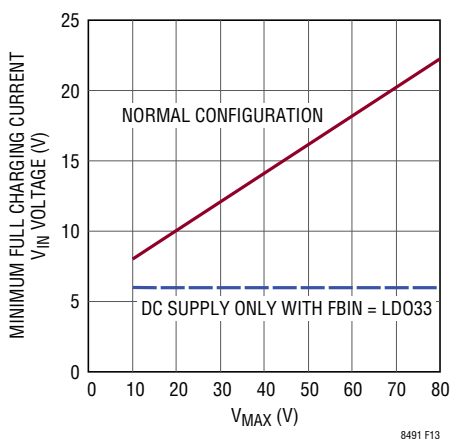

Figure 13. Minimum Full Charging Current V_{IN} Voltage
3. **LOW INPUT VOLTAGE EFFECTS:** Figure 13 shows the minimum input voltage, below which the maximum charging current may be reduced. This limit is a function of the input V_{MAX} as discussed previously in the
HW Config: Input Voltage Sensing and Modulation section. Maximum charging current can reduce as FBIN gets closer to its regulation voltage of 1.205V (typical). This is not normally a significant issue unless 1) the charger is powered by a low voltage DC power supply or 2) a low voltage panel is used with a charger that is configured for a much higher voltage panel. The farther that V_{IN} is below the Normal Configuration line in Figure 13 the more the current can reduce.
When using a solar panel supply, choose a panel having a maximum open-circuit voltage (V_{OCMAX}) close to V_{MAX} (discussed in the HW Config: Input Voltage Sensing and Modulation section). The maximum power point voltage is typically well above the voltage thresholds in Figure 13 and current limiting is rarely an issue. Avoid using solar panels that operate dramatically below V_{MAX} , particularly if the maximum power point voltage is typically below the Normal Configuration line in Figure 13.
Minimum Input Voltage Requirement: When in power supply mode, the LT8491 will operate from an input as low as 6V. However, charging current capability can become limited at low input voltages depending on the V_{MAX} voltage used when determining the input voltage sensing network resistor values (see previous HW Config: Input Voltage Sensing and Modulation section). Figure 13 shows the minimum input supply voltage required, below which, charging current can drop below the maximum output current limit. If the LT8491 will only be powered by a DC supply, the minimum input voltage shown in Figure 13 can be reduced to 6V by (1) disconnecting FBIN from FBIR and (2) connecting the FBIN pin directly to LDO33.